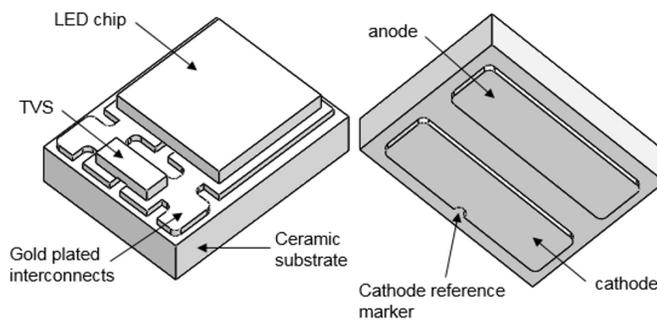

Figure 1. 3D renditions of a representative of LUXEON UV U Line. Top view (left) and bottom view (right).
The LUXEON UV U Line emitter is an ultra-compact, surface mount, high-power ultraviolet (UV) and violet LED with peak wavelength ranging from 380nm to 420nm. Each LUXEON UV U Line emitter consists of a high brightness InGaN chip on a ceramic substrate. The ceramic substrate provides mechanical support and provides a thermal path from the LED chip to the bottom of the emitter (Figure 1). An interconnect layer electrically connects the LED chip to cathode and anode pads of equal size on the bottom of the ceramic substrate.
LUXEON UV U Line emitters contain only two electrical pads on the bottom of the ceramic substrate with a spacing of 0.25mm and 0.60mm for LUXEON UV U1 and LUXEON UV U2 respectively. The gold plated interconnects (Figure 1) of LUXEON UV U Line emitters are not coated with any protective layer. Consequently any conductive debris or residue may cause emitter shorting or reduce creepage distance over time.